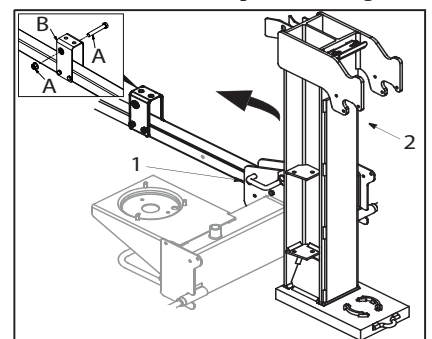

Fig. 6a
- Remove bolt and nut (A) from holder (B).
- Pull out column lock (1), turn it backwards and tilt the column into a horizontal position. Fig. 6a